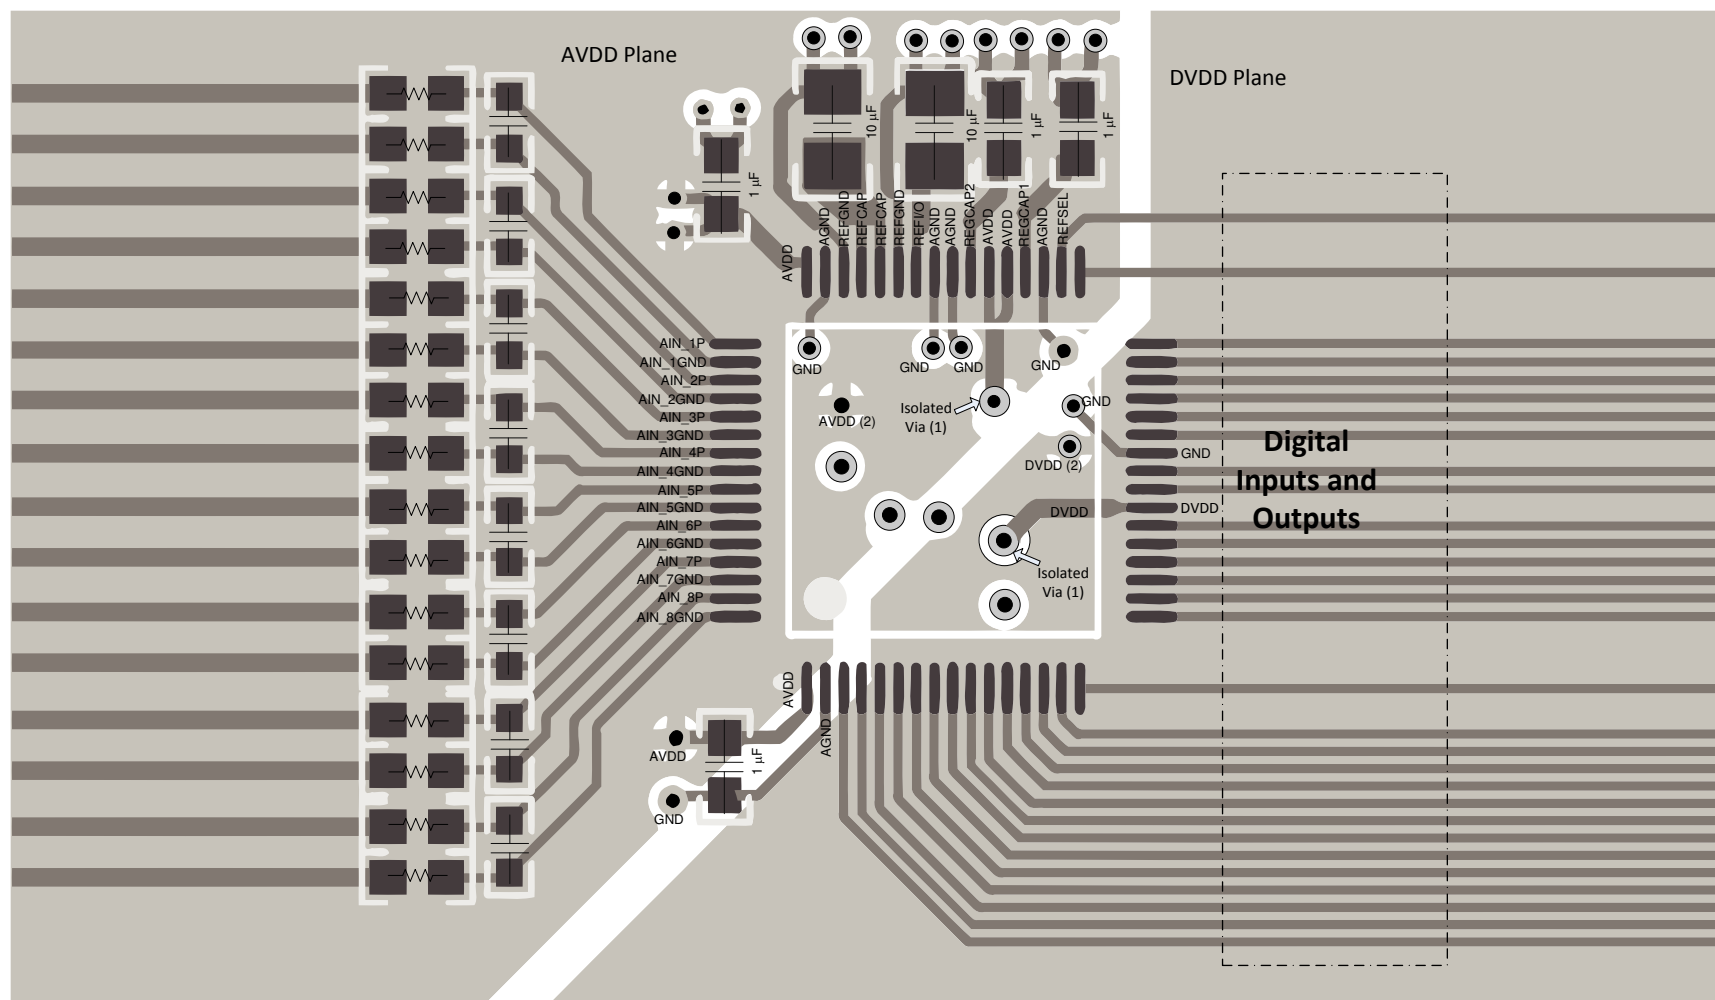
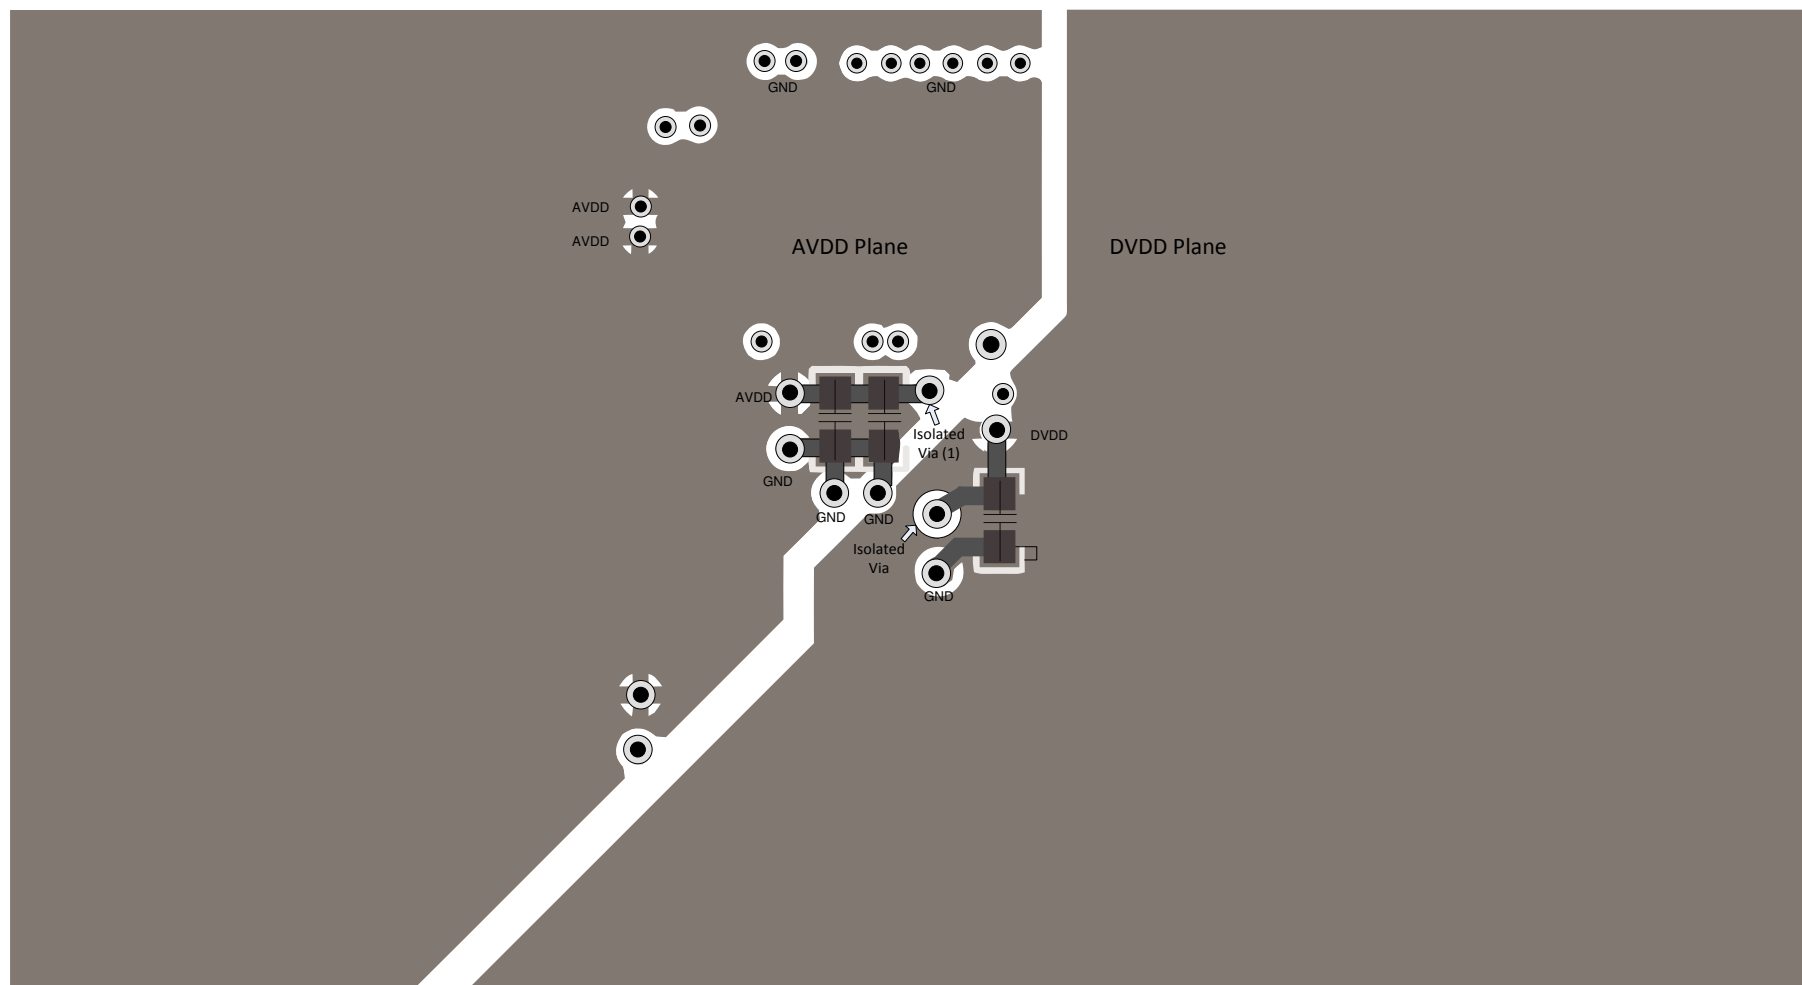

Figure 8-6. Top Layer Layout
Figure 8-7. Bottom Layer Layout
Figure 8-6 and Figure 8-7 illustrate a PCB layout example for the ADS8588H.
- Power sources to the ADS8588H must be clean and well-bypassed. As a result of dynamic currents during conversion, each AVDD must have a decoupling capacitor to keep the supply voltage stable. Use wide traces or a dedicated analog supply plane to minimize trace inductance and reduce glitches. Using a 1-μF, X7R-grade, 0603-size ceramic capacitor is recommended in close proximity to each analog (AVDD) supply pins. Bypass capacitors for AVDD pins 1 and 48 are located on the top layer; see Figure 8-6. AVDD supply pins 37 and 38 are connected to bypass capacitors in the bottom layer using an isolated via (1); see Figure 8-7. A separate via (2) is used to connect the bypass capacitor to the AVDD plane.
- For decoupling the digital (DVDD) supply pin, a 1-μF, X7R-grade, 0603-size ceramic capacitor is recommended. The DVDD bypass capacitor is located in the bottom layer; see Figure 8-7.
Figure 8-6 and Figure 8-7 illustrate a recommended layout for the ADS8588H along with proper decoupling and reference capacitor placement and connections.